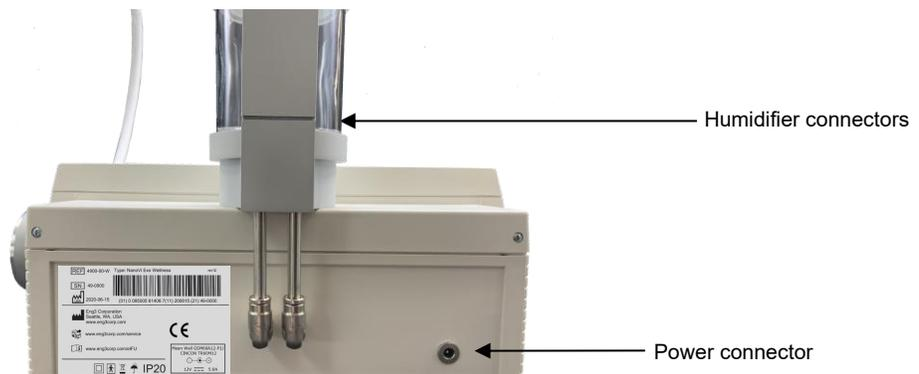

Fig. 1.2: Back view of the NanoVi® Wellness device
7. Connect the power cord to the power supply. Plug the power supply into the NanoVi® Wellness device. Note Figure 1.2 to locate the power connector on the back of the device. Plug the power cord into an electrical outlet.